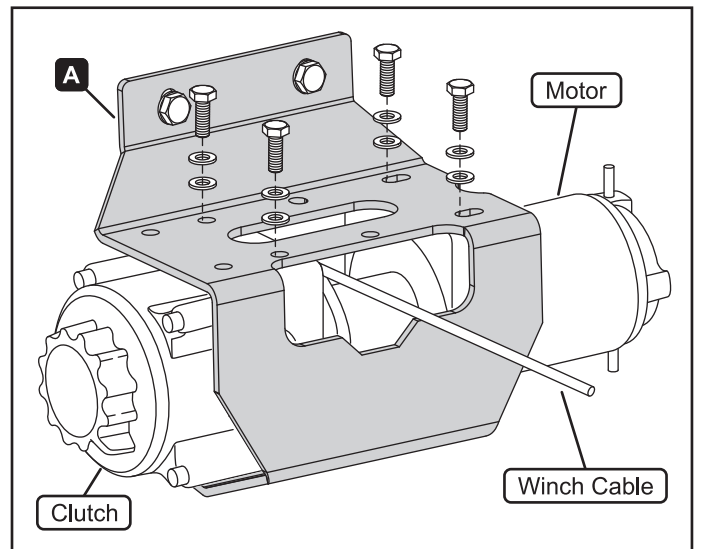

Figure 5.
4. Install your winch into winch mount (A) with the hardware provided with your winch. See figures 5 and 6.
- Note:** Orientation of winch and winch rope shown in figure 5.